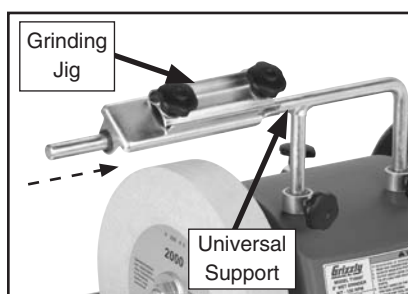

Figure 8. Attaching grinding jig.
2. Slide the grinding jig onto the universal support as shown in **Figure 8**.